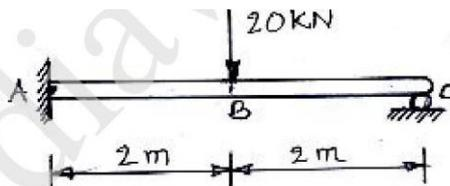

Fig. 4
7. A beam with fixed end and roller support is subjected to a point force of 20 kN as shown in **Fig. 4**. Determine (i) Transverse forces and bending moments, and (ii) Deflections and slopes at points A, B and C. Take $E = 200 \text{ GPa}$ and $I = 8 \times 10^{-5} \text{ m}^4$. 14M
8. Prepare a detailed estimate of R.C.C. Beam given in Fig. 4. 14M